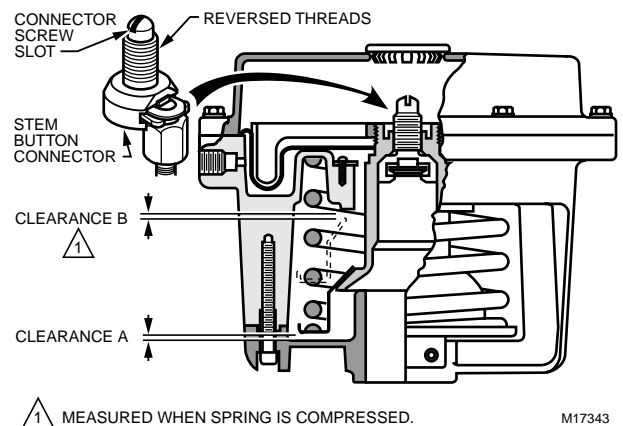

Fig. 6. MP953D,F Actuator Connected to Stem Button.
2. Remove stem button connector (Fig. 6) from actuator and attach to stem button.
- a. Straight-through valve: Turn connector screw until a clearance of approximately 1/8 in. (3 mm) exists between spring cup and actuator base. (See Fig. 6, clearance A.)
- b. Three-way valve: Clearance is required at both ends of the stroke to permit proper close-off. (See Fig. 6, clearances A and B.) Both clearances should be the same.